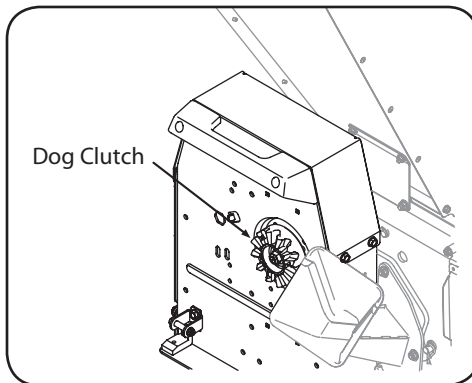

Figure 5-3
5. Spin the dog clutch two-to-three times to purge any remaining debris from the reduction chamber. See Figure 5-3.